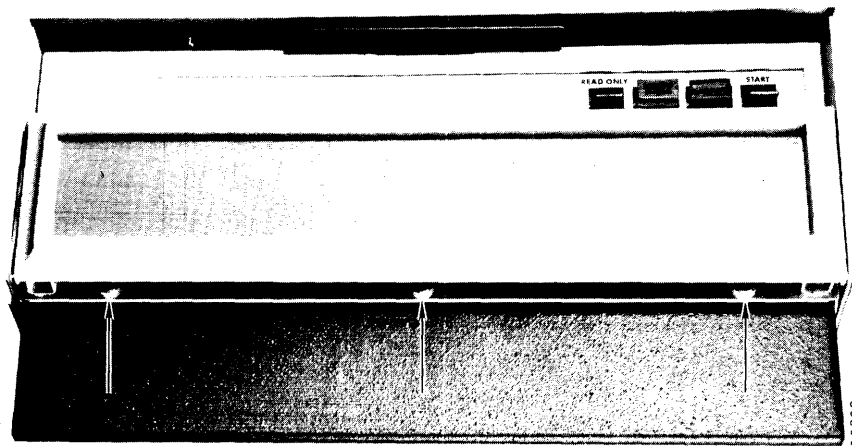

Figure 2-4. Front Cover Thumbscrew Locations
1. The front cover of the unit can be removed by unscrewing the three thumbnuts underneath the front-end bezel (Figure 2-4) and then pulling the cover straight forward until it is clear of the unit.